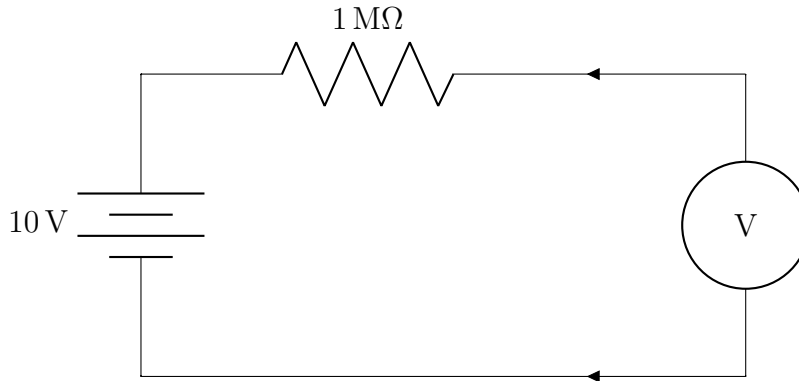

Figure 2: Circuit used to measure the internal resistance R_M of the voltmeter
To determine the internal resistance of the voltmeter, set up a circuit as shown in Figure 2. The voltmeter reads the voltage across itself, which includes its internal resistance. Because the circuit has only a single branch, the current flowing through the resistor also flows through the voltmeter. In this circuit, the source voltage $V_S = 10$ V and the DC voltage measured by the voltmeter is V_M . The current is given by the equation
4. Assemble the circuit in Figure 2.